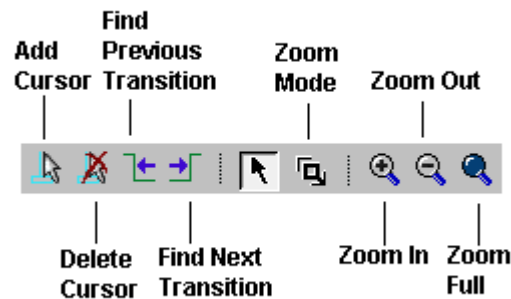

Figure 18 - ModelSim for Actel zoom controls
5. Scroll in the wave window to verify the multiplexor works correctly. Use the zoom buttons to zoom in and out as necessary (Figure 18).